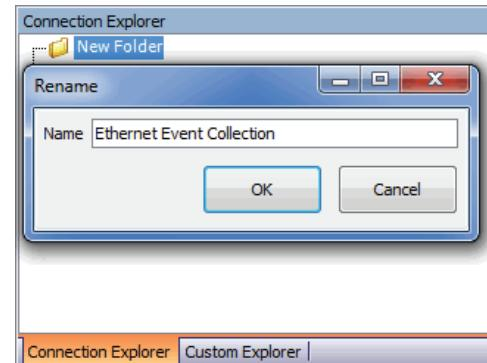

Figure 12 Rename the New Folder
- Step 2. Right-click the new folder and select **Rename**. Change the name to **Ethernet Event Collection**, as shown in *Figure 12*, and select **OK**.